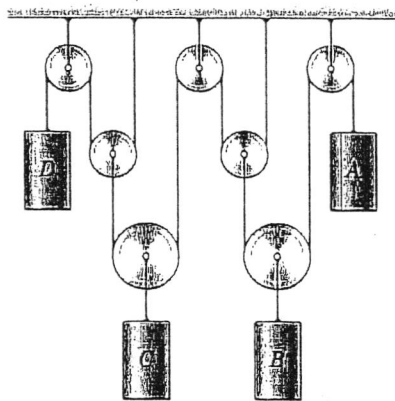

Fig. Q.8
8. Determine the relationship that governs the velocities of four cylinders shown in Fig. Q.8. Assume all velocities as positive downwards. How many degrees of freedom are there? 11